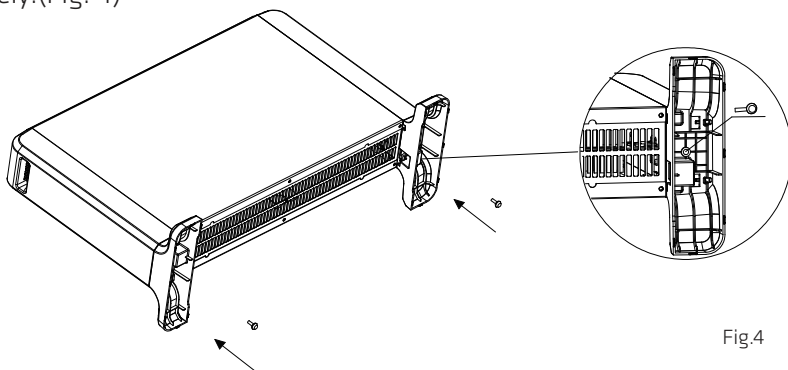

Fig.4
4. Fasten the screws on both sides of the base and tighten them securely.(Fig. 4)